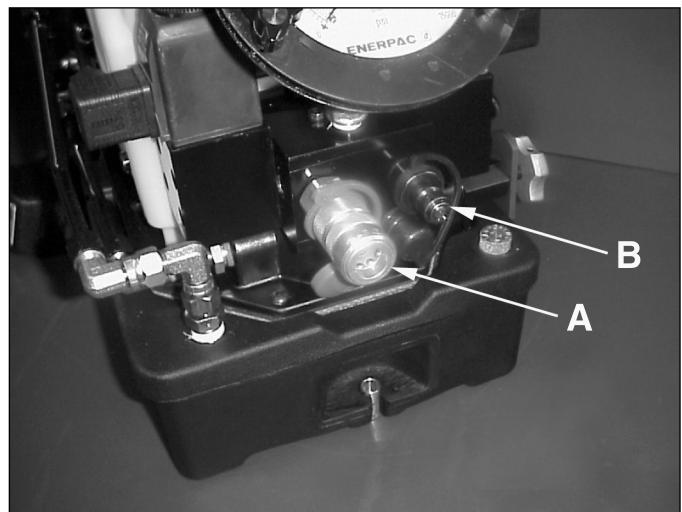

Figure 3 - Pump Outlet (Double-Acting)
- Couple hoses to pump outlet manifold shown in Figure 3. BE SURE to use hose marked "ENERPAC 800 SERIES - 800 BAR/11,600 PSI MAX". Hand tighten coupler lock rings.